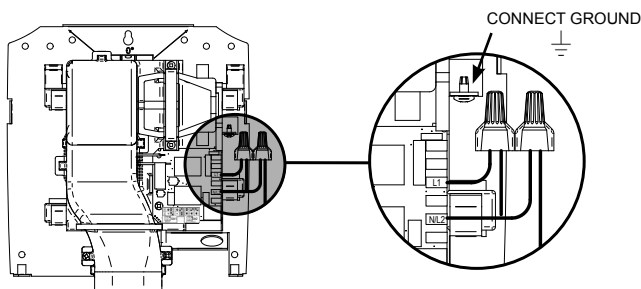

FIG. 4
4. Connect the hand dryer to the power cable. (FIG. 4)
- Disconnect the motor from the electronic board. (FIG. 4)